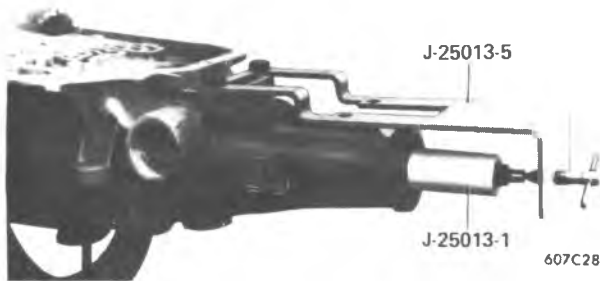

Figure 7A1-30 Installing Tools on Rear End of Case
c. Remove pump to case bolt and washer and install 278mm (11") long bolt and locking nut as shown. (Figure 7A1-32).